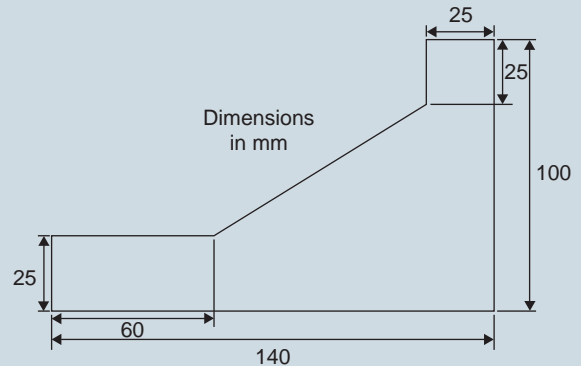

Figure 2.27
7. Calculate the area of the steel plate shown in Fig. 2.27.